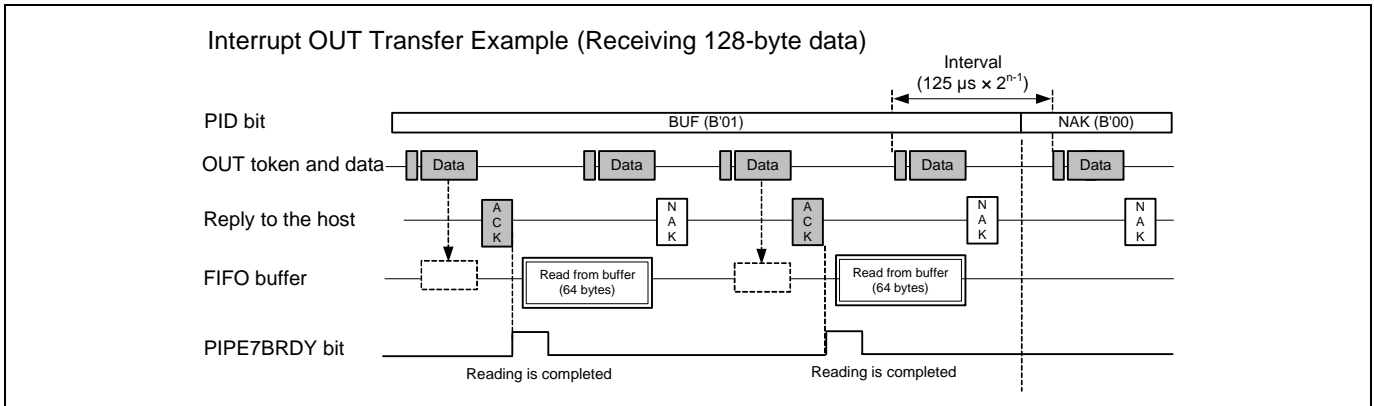

Figure 12 Interrupt OUT Transfer Example
Table 2 lists the setting example of interrupt OUT transfer using pipe 7. Figure 12 shows the operation example using the setting listed in Table 2. As double buffering and continuous transfer mode cannot be used in this example, use BRDY interrupt to read transactions one by one from FIFO buffer memory. For details, refer to (1) to (7) described in following pages.